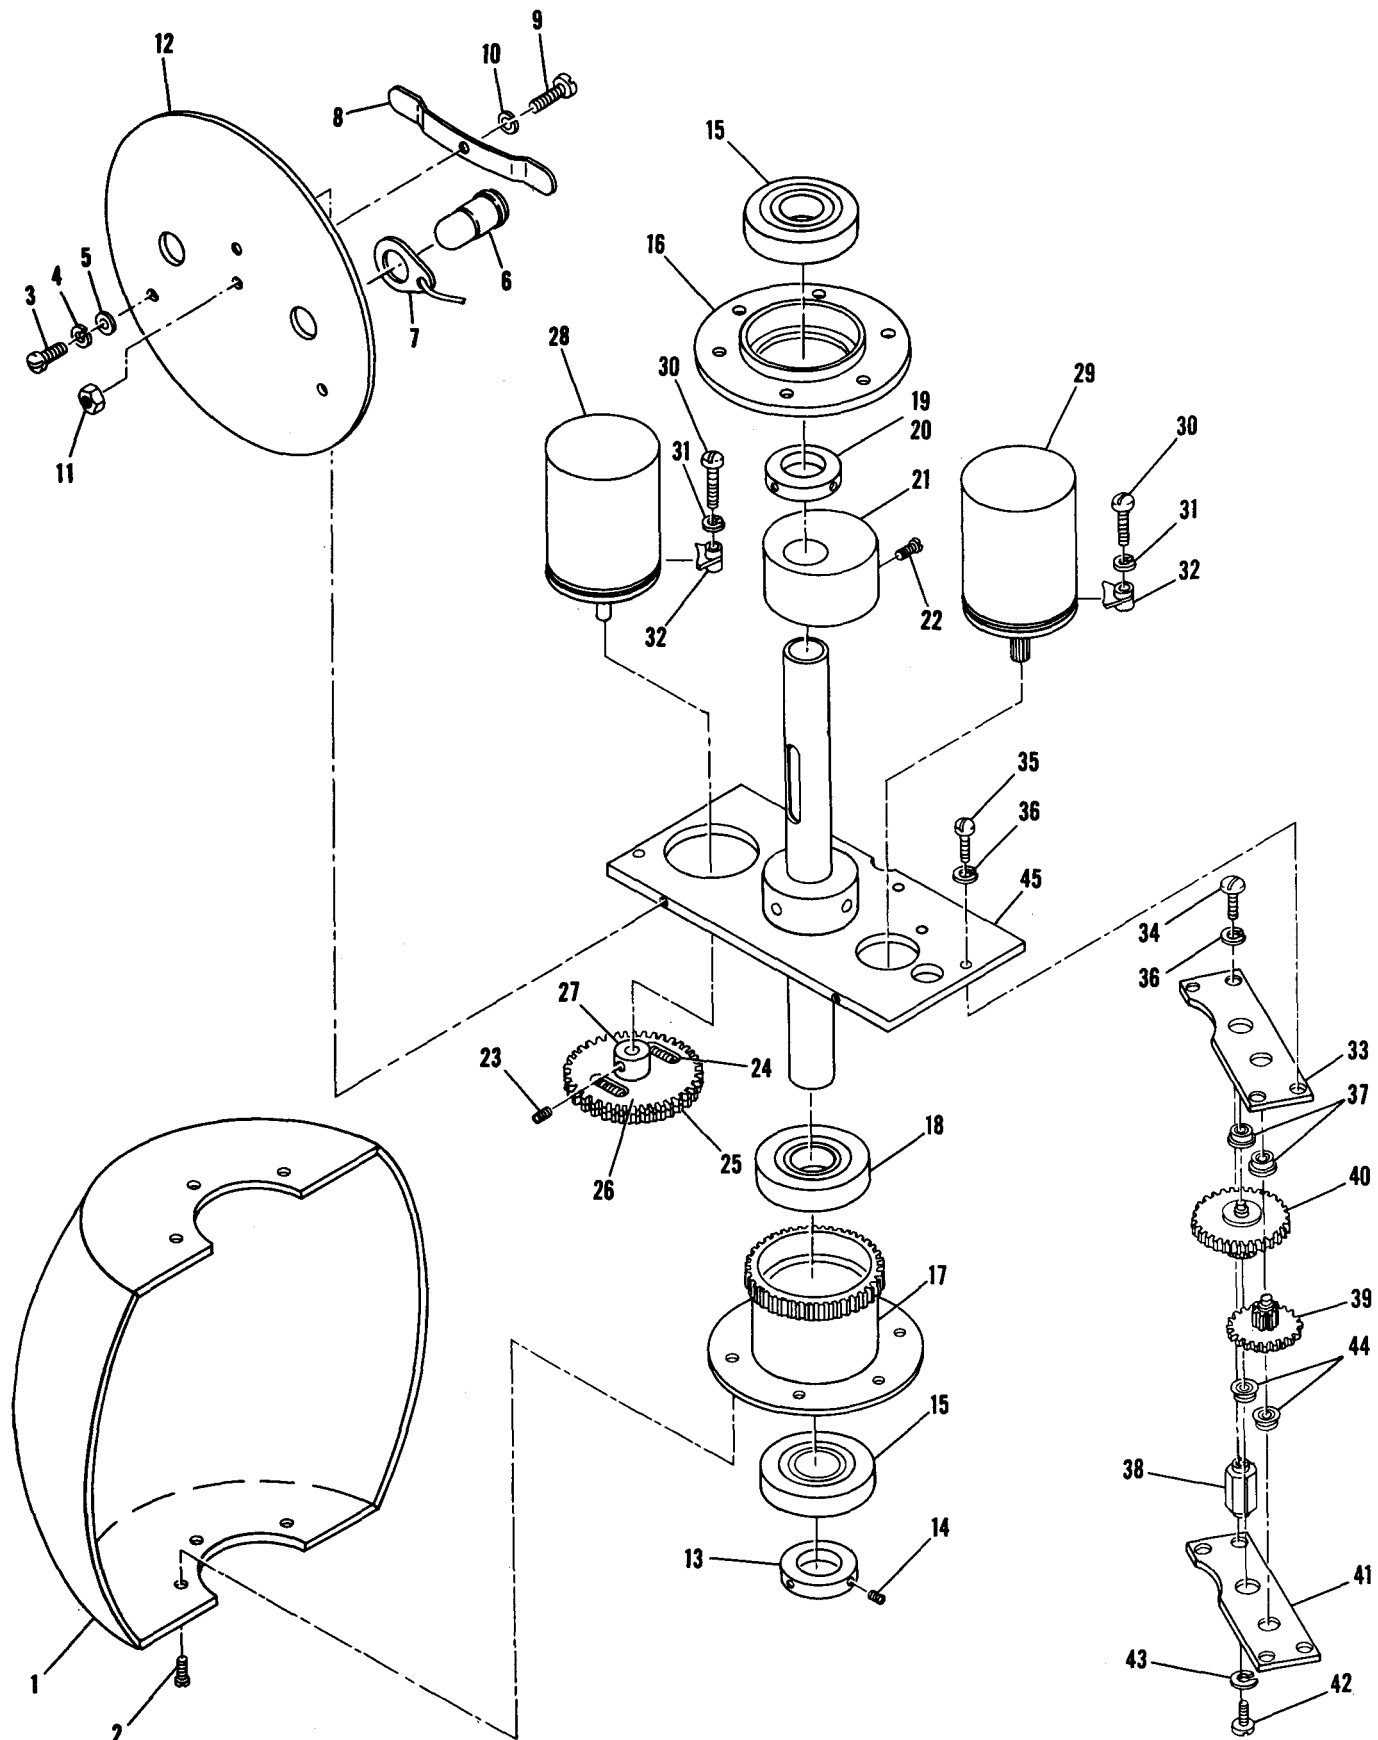

Figure 2-6. Pitch Servo and Spheroid Assembly.
Pitch servo and spheroid assembly (fig. 2-6) is wired to terminal board (40, fig. 2-6). The assembly can be disassembled without removing wires, except when disassembling bearings (15), end bell (16), collar (20), and counterweight (21).
(1) Remove screws (3, fig. 2-6) and washers (4 and 5) and remove spheroid lighting assembly.
(2) Remove lamp (6) and electrical contact (7).
(3) Remove screw (9), washer (10), and nut (11), and remove lug (8).
(4) Remove reflector (12) and loosen setscrew (14) securing shaft collar (13) and remove shaft collar and bearing (15).
(5) Remove end bell (16), bearing (15), spur gear (17), and bearing (18).
(6) Loosen setscrew (20) and remove collar (19).
(7) Remove screws (22) and remove counterweight (21).
(8) Remove setscrew (23) and remove spur gear assembly.
(9) Remove spur gears (25 and 26) and gear shaft (27). Remove screws (30), washers (31), and clamps (32) and remove tachometer motor (28).
(10) Remove screws (30), washers (31), and clamps (32), and remove control synchro (29).
(11) Remove bearing plate (33) from gear assembly by removing screws (34 and 35) and washer (36).